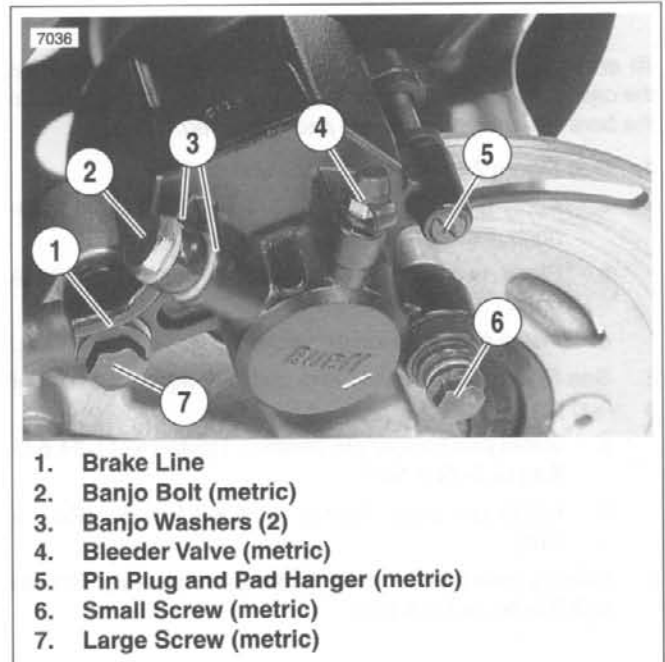
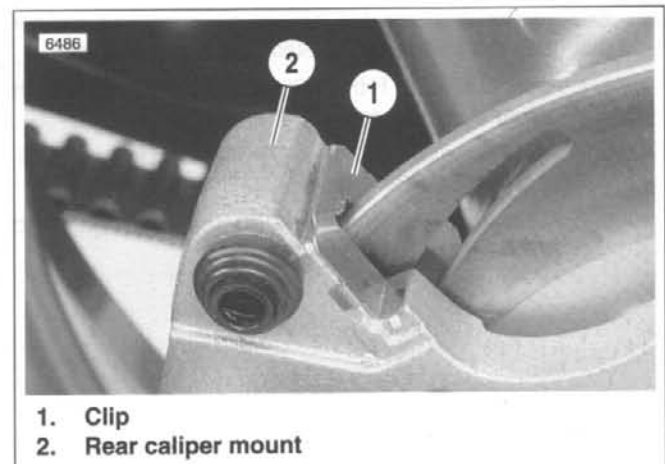

Figure 2-83. Rear Brake Caliper
Figure 2-84. Caliper Mount Clip
2. See Figure 2-83. Remove banjo bolt (2) (metric) and two banjo washers (3) to disconnect brake line (1) from caliper. Discard banjo washers.
3. Remove small screw (6) (metric) and large screw (7) (metric) to detach caliper from mount.
4. See Figure 2-84. Remove clip (1) from rear caliper mount (2) if necessary.
1. See Figure 2-83. Remove pin plug and pad hanger (5) (metric) to free brake pads.
1. See Figure 2-84. Install caliper mount clip (1) if removed.
2. See Figure 2-83. Install caliper assembly on caliper mount. Brake pad surfaces must face rear brake rotor.
- b. Install large caliper screw (7) (metric). Tighten to 18-22 ft-lbs (24.4-29.8 Nm)
- c. Install small caliper screw (6) (metric). Tighten to 14.5-18 ft-lbs (19.6-24.4 Nm).